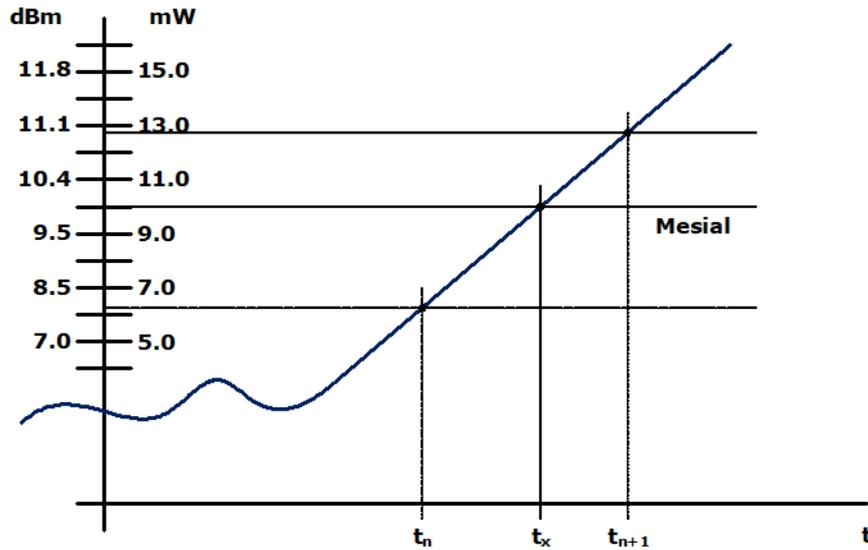

Figure 5-3. Time Interpolation Example
- The process determines horizontal position, in pixels, at which the signal crosses the mesial value. This is done to a resolution of 0.1 pixel, or 1/5000 of the screen width. Ordinarily, the sample values do not fall precisely on the mesial line, and it is necessary to interpolate between the two nearest samples to determine where the mesial crossing occurred. This process is illustrated in the example shown in Figure 5-3.